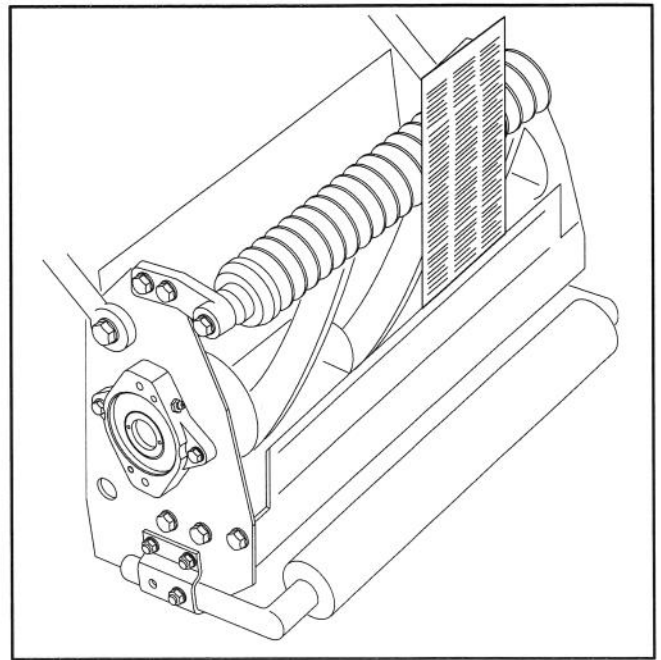

Figure 2
2. Tip cutting unit rearward to gain access to reel and bedknife (Fig. 2).